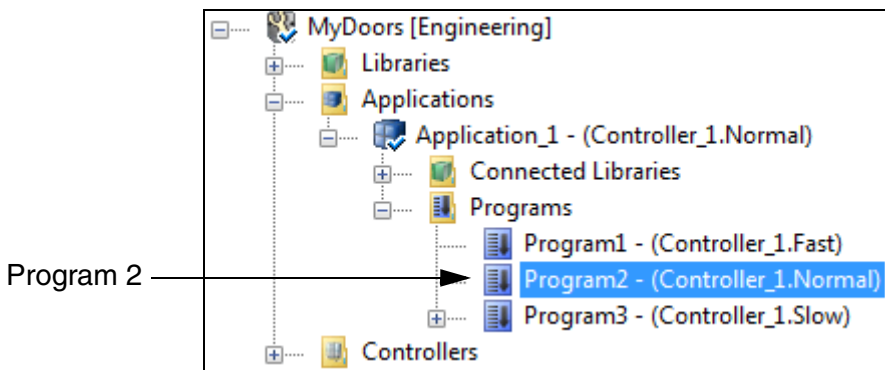

Figure 14. Programs folder expanded with Program1, Program2 and Program3 available
1. In the Project Explorer, expand the project tree until you see **Program2**, (Figure 14). Double-click the icon to open the Program editor.
Make sure the program editor is open, (see Figure 14, to open editor)